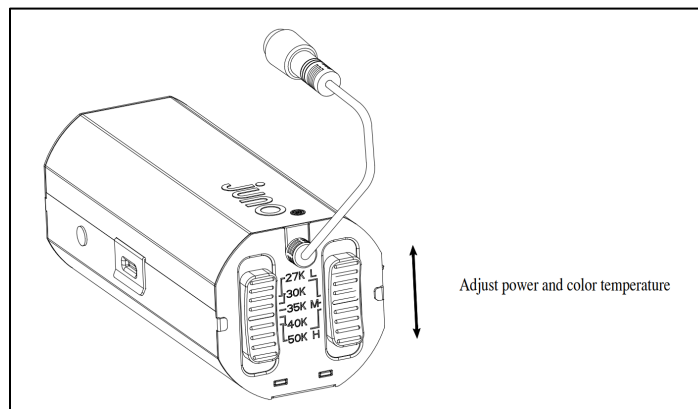

Figure 4
5. Use switch on the driver box (Lumen/CCT options need to be selected before fixture installation) to select appropriate lumen output (High-Medium-Low option, with High as factory default) and light color (27K-30K-35K-40K-50K option, with 30K as factory default). (Figure 4)